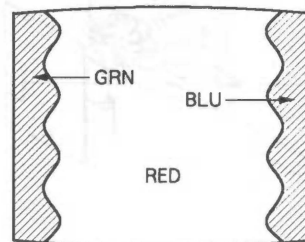

Fig. 3-2.
- 4. Loosen the deflection yoke bracket, and set purity control to the center. (Fig. 3-2.)